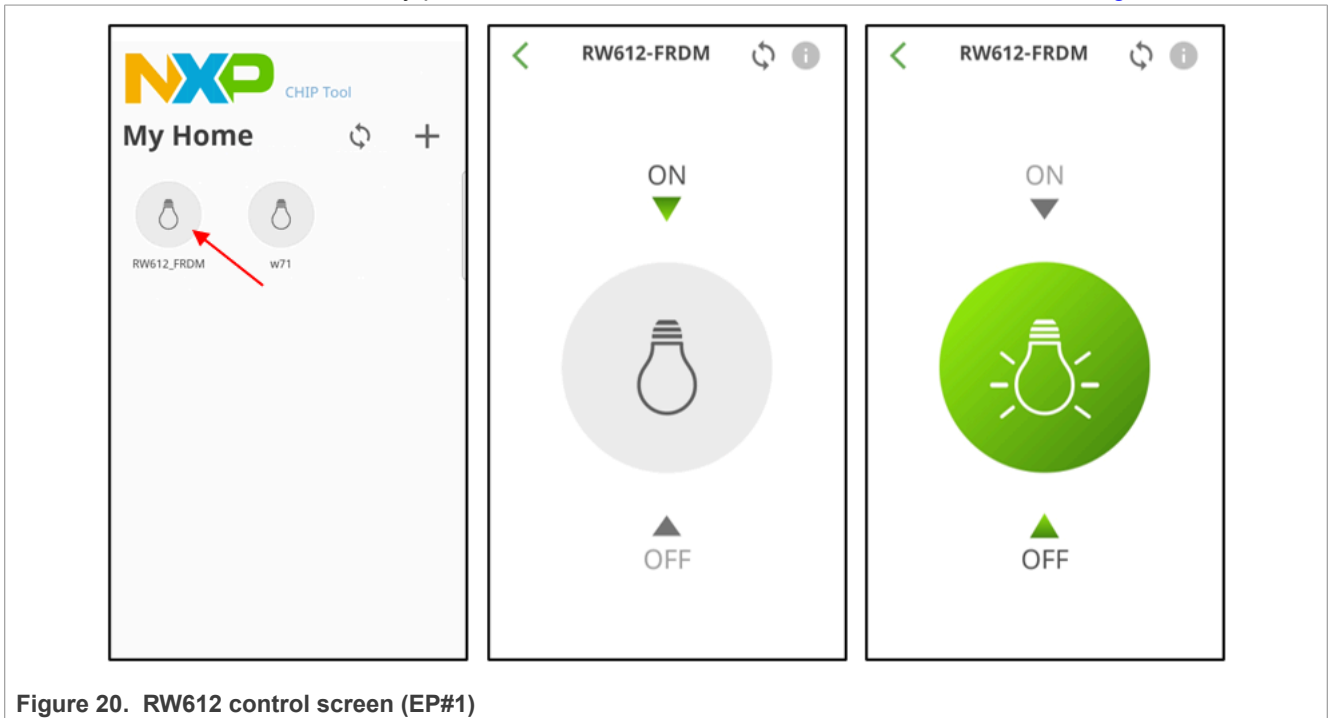

Figure 20. RW612 control screen (EP#1)
4. The device is now successfully paired and the switch can be controlled. For details, see Figure 20